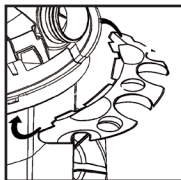

FIGURE 14
21. With rear of unit facing you, take tool holder and position it with the tabs facing rear tank cover. **FIGURE 14.**